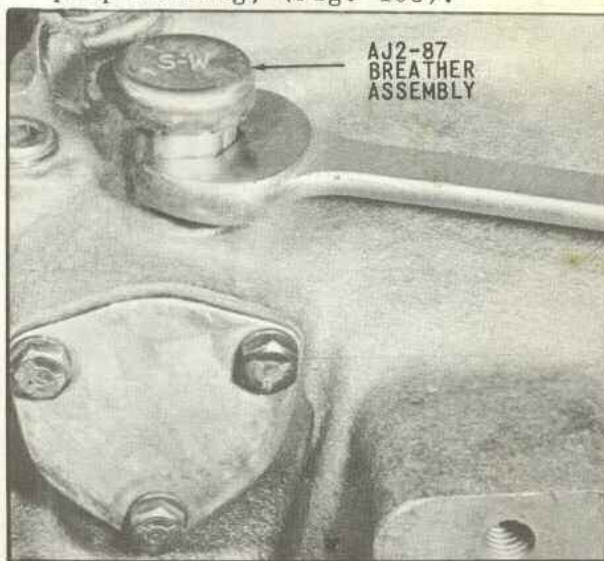

Fig. 104 Installation of Breather Assembly
1. Assemble the screw-in type breather assembly as shown in (Fig. 104).